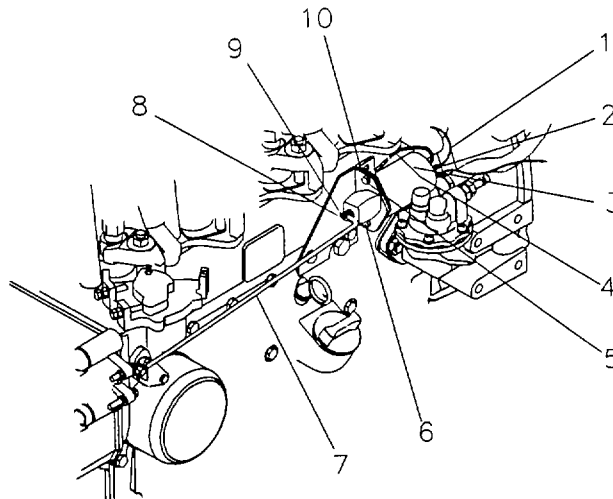

Figure 4-15. Fuel Control Solenoid.
a. Removal. Refer to figure 4-15.
- 1) Tag wires (1), remove the two screws (2) and remove wires (1) from the fuel control solenoid (3).
- 2) Remove the cotter pin (9), washer (8) from the push/pull rod (7) and withdraw the push/pull rod (7) from the fuel control solenoid (3).
- 3) Remove the top bolt and nut (5) holding the fuel control solenoid (3) and the black solenoid ground wire (4) to the backplate (10).
- 4) Remove the bottom bolt and nut (6) and remove the fuel control solenoid (3) from the backplate (10).
b. Installation. Refer to figure 4-15.
- 1) Install the fuel control solenoid (3) and secure to backplate (10) with bottom bolt and nut (6).
- 2) Install black solenoid ground wire (4) and secure to backplate (10) with top bolt and nut (5). Torque top bolt (5) to 5 ft. lb. (7 0 Nm).
- 3) Install push/pull rod (7), washers (8) on to fuel control solenoid (3) and secure with cotter pin (9).
- 4) Install wires (1) on to fuel control solenoid (3) and secure with screws (2).